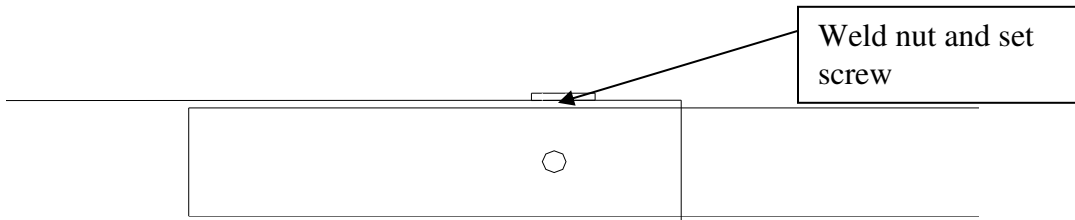

Figure 5. Close up of mating between inner and outer tubes, showing weld nut.
- 7) At this point, it is equally acceptable to attach the board or hoist the adjust-a-goal into place at the end of the extension arms. **The wall mount must be supported as this is done.** If you are attaching the board, utilize the 3/8"-16 x 1" carriage bolts at the top support angle and the 3/8"-16 x 3.5" carriage bolts at the DME. To attach the adjust-a-goal, use (4) 1/2"-13 x 2" machine bolts and 1/2"-13 whiz-lock nuts.
- 9) To temporarily retain the extension tubes at the proper length, tighten the setscrews provided in the welded on T-nut, (see figure 5). At this time, the board should also be squared and leveled.